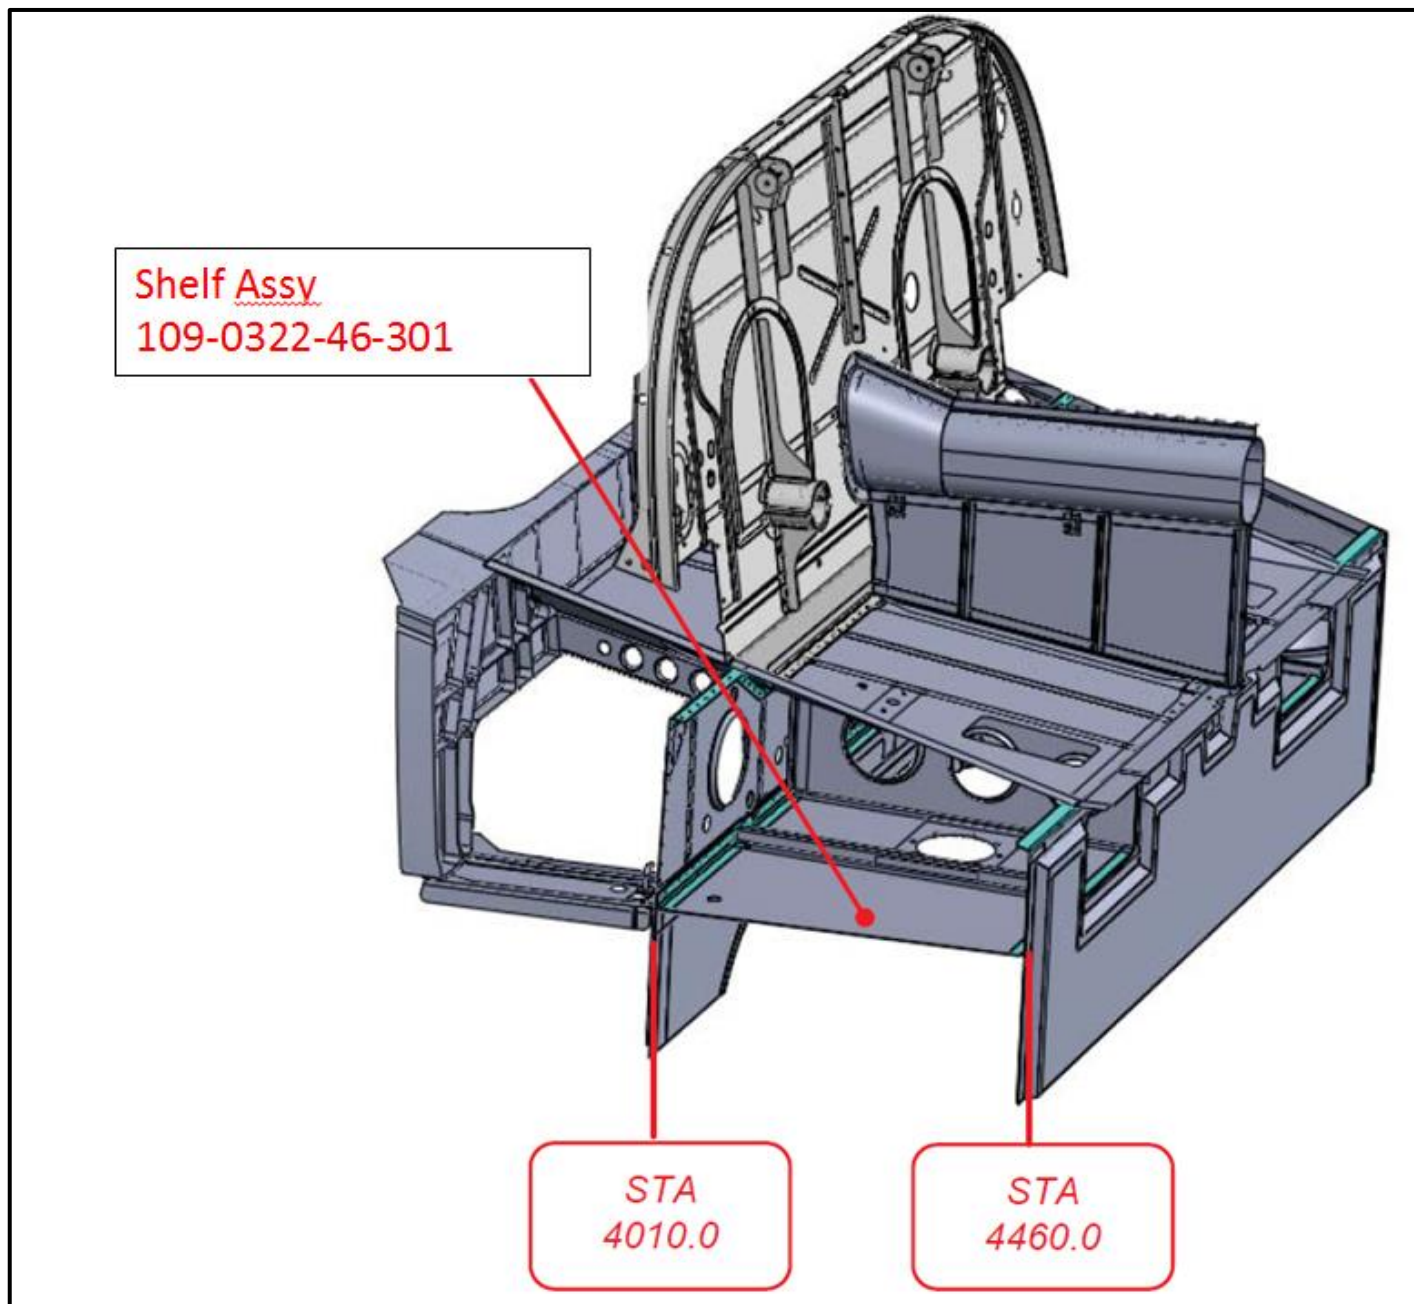
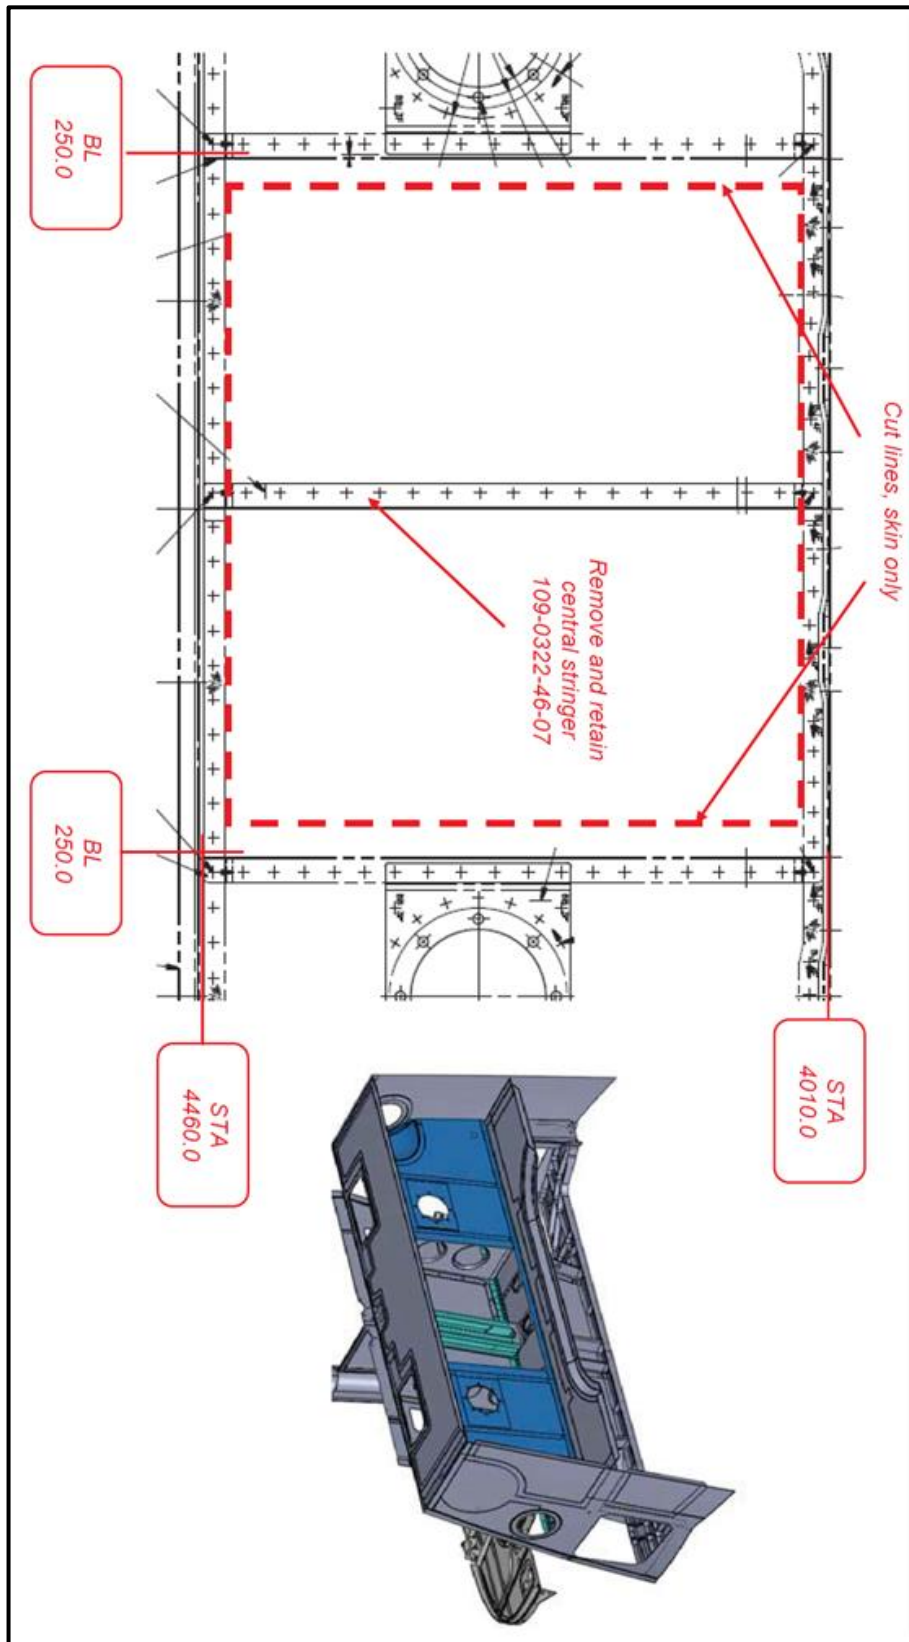

Figure 2 - Beam Assy STA4010.0 to STA4460.0 – Replacement procedures
Figure 3 - Beam Assy STA4010.0 to STA4460.0 – Replacement procedures
2. Cut out a rectangular section from the skin of the shelf assy 109-0322-46 between STA4010.0 and STA4460.0 as shown in Figure 2 & Figure 3.
3. Remove and retain central stringer P/N: 109-0322-46-07 shown in Figure 3.